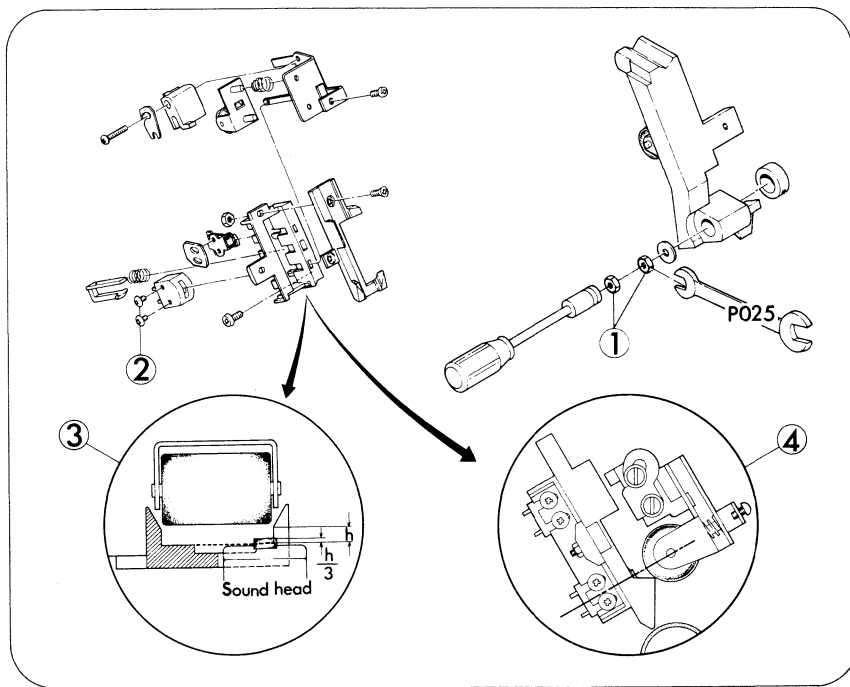

Fig. 18
4. SOUND HEAD (Fig. 18)
3. Take out attaching screws (Fig.18-a,x2), and replace Sound head.